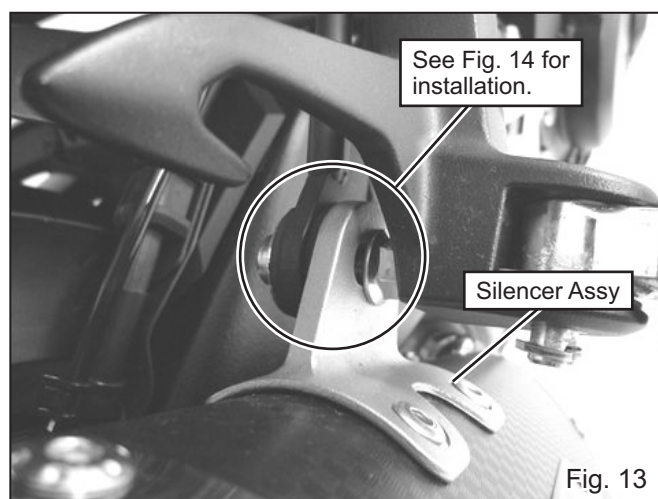

Fig. 13
- 15) Fix Silencer Assy to Silencer Bracket with Cap Bolt M8x30, 2 of Washer M8x26 and Flange Nut M8 supplied in the Yoshimura R-11 Slip-on set. (See Fig. 13 & 14) Tighten bolt by hand only at this stage.